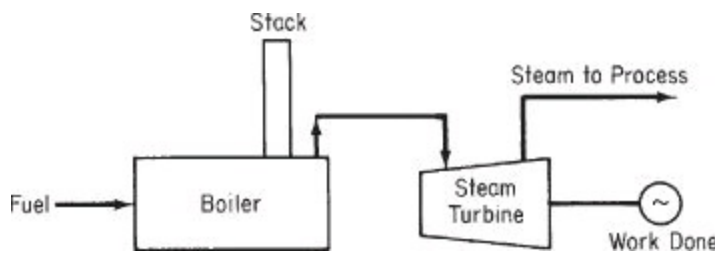

Figure P9.3.22
- b. Cogeneration (generation of steam for both power and heating) involves the use of gas turbines or engines as prime movers, with the exhausted steam going to the process to be used as a heat source. A typical installation is shown in Figure P9.3.22.